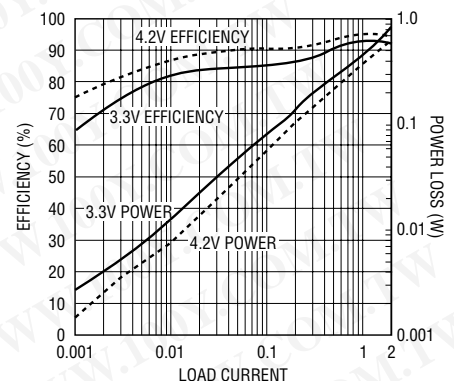

Figure 1. High Efficiency Step-Up Converter
3.3V Output Efficiency, Circuit of Figure 1 with Burst Mode Operation
3.3V Output Efficiency, Circuit of Figure 1 with Burst Mode Operation Inhibited